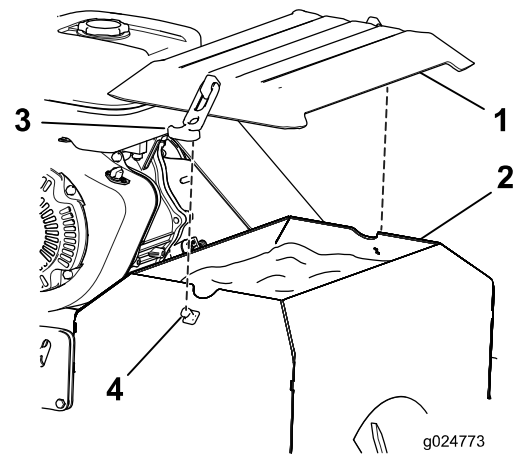

Figure 13
- To install the seed cover (Figure 13), place it over the seed hopper and fasten it to the latch posts on either side using the rubber latches.